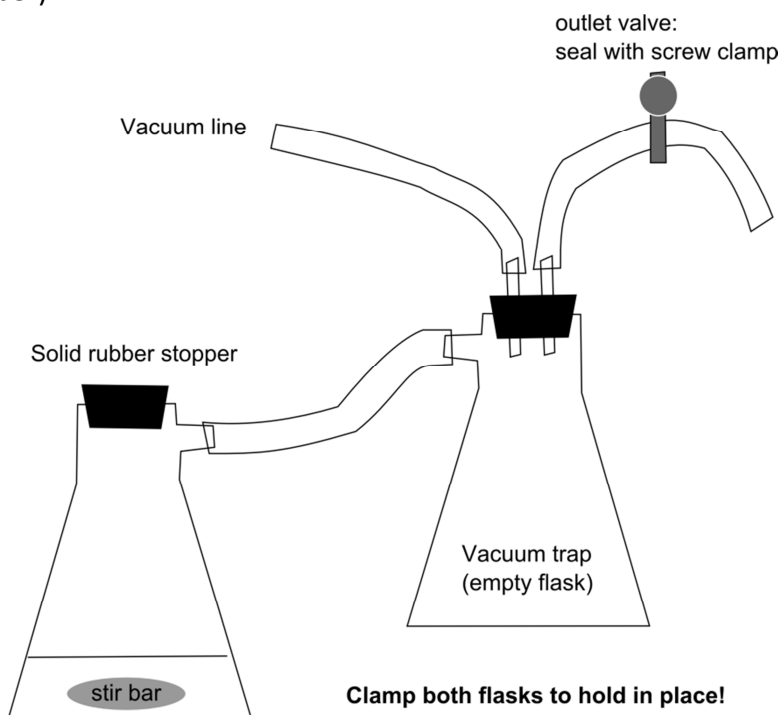

Figure 5. Vacuum trap setup for removing ammonia from solution
- 17) Set up a vacuum trap, as shown in figure 5 below (you will need a 500 mL vacuum flask to fit a two-holed stopper):